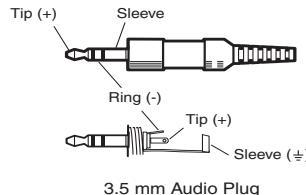

Figure 2-2 — Tip, ring, and sleeve
⑤ **Audio Input connector** — Plug a computer audio source into this 3.5 mm stereo jack. Wire the connector as shown in figure 2-2.